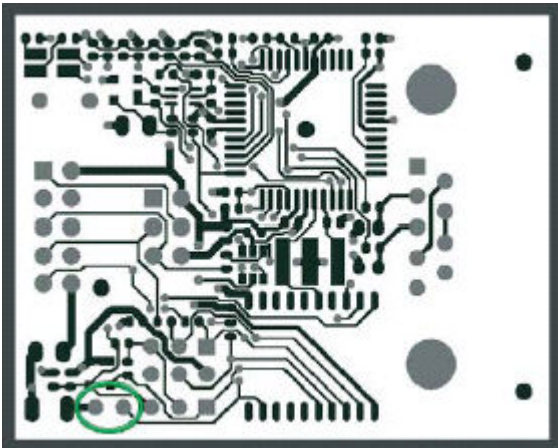
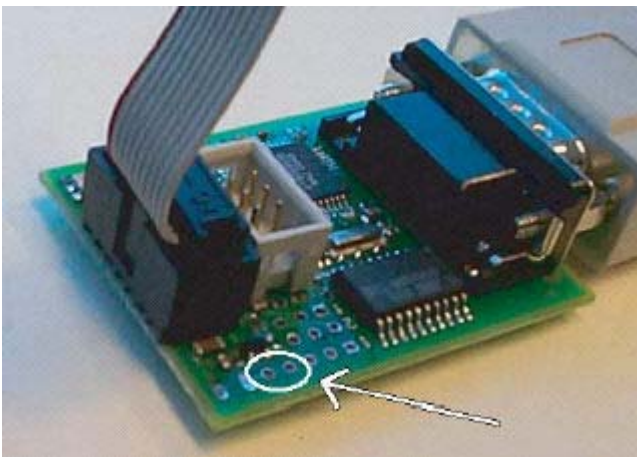

Figure 1: AVR ISP PCB Layout – Pin Holes Marked with Green Circle
Figure 2: AVR ISP without Housing – Pin Holes Marked with White Circle
- Short the pin holes marked on Figure 1 (PCB layout) and Figure 2 (photo).
- Power on the AVRISP by powering the target board that supplies the power to the AVRISP (1).